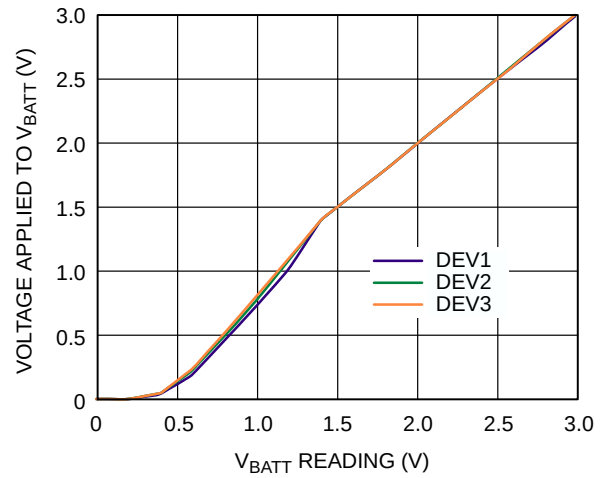

Figure 16. Applied Voltage vs.  $V_{BATT}$  Reading
4. Note that this specification does not apply if Pin 26 ( $V_{BATT}$ , +1.2V) is being measured in single-channel mode. See Figure 16 in the Typical Performance Characteristics section for  $V_{BATT}$  accuracy.